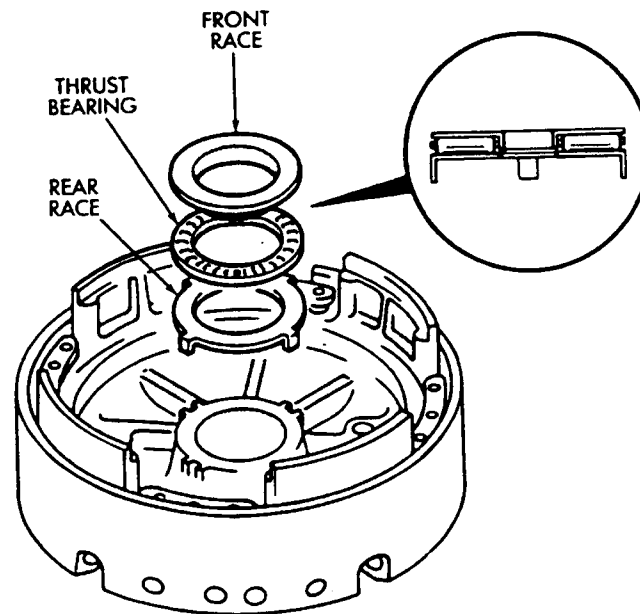

Fig. 9 Installing Support Thrust Bearing And Races
(6) Install thrust bearing and front and rear bearing races. Thrust bearing rollers should face upward as shown (Fig. 9).
(7) Verify thrust bearing/race sizes (Fig. 9). Front race outer diameter is 47.8 mm (1.882 in); inside diameter is 30.7 mm (1.209 in). Rear race outer diameter is 47.8 mm